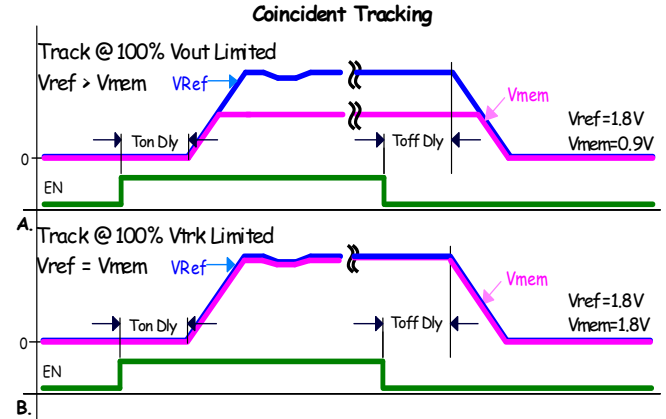

FIGURE 22. COINCIDENT TRACKING
- Track at 100% V_{OUT} limited. Member rail tracks the reference rail and stops when the member reaches its target voltage Figure 22 (A).
- Track at 100% VTRK limited. Member rail tracks the reference at the instantaneous voltage value applied to the VTRK pin Figure 22 (B).
The configuration settings for Figures 22 and 23 are shown in Tables 11 through 14. In each case the reference and member rise times are set to the same value.
TABLE 11. TRACKING CONFIGURATION (Figure 22 (A))
TABLE 12. TRACKING CONFIGURATION (Figure 22 (B))